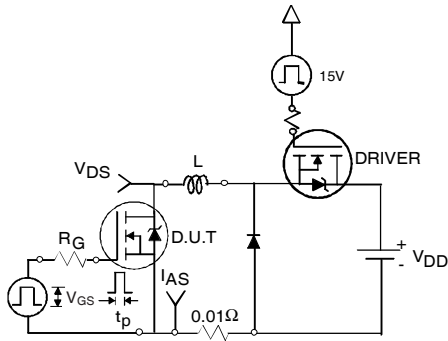

Fig 12a. Unclamped Inductive Test Circuit
- ③ Pulse width $\leq 1.0\text{ms}$; duty cycle $\leq 2\%$.
- ④ $C_{oss\ eff.}$ is a fixed capacitance that gives the same charging time as C_{oss} while V_{DS} is rising from 0 to 80% V_{DSS} .
- ⑤ Limited by T_{Jmax} , see Fig.12a, 12b, 15, 16 for typical repetitive avalanche performance.
- ⑥ This value is determined from sample failure population, starting $T_J = 25^\circ\text{C}$, $L = 0.11\text{mH}$, $R_G = 25\ \Omega, I_{AS} = 75A, V_{GS} = 10V$.
- ⑦ This is only applied to TO-220AB package.
- ⑧ This is applied to D²Pak, when mounted on 1" square PCB (FR-4 or G-10 Material). For recommended footprint and soldering techniques refer to application note #AN-994.
- ⑨ TO-220 device will have an R_{th} value of 0.65°C/W .
- ⑩ R_{θ} is measured at T_J approximately 90°C .
- ⑪ Calculated continuous current based on maximum allowable junction temperature. Package limitation current is 160A. Note that current limitations arising from heating of the device leads may occur with some lead mounting arrangements. (Refer to AN-1140) <http://www.irf.com/technical-info/appnotes/an-1140.pdf>
3. Equation below based on circuit and waveforms shown in Figures 12a, 12b.